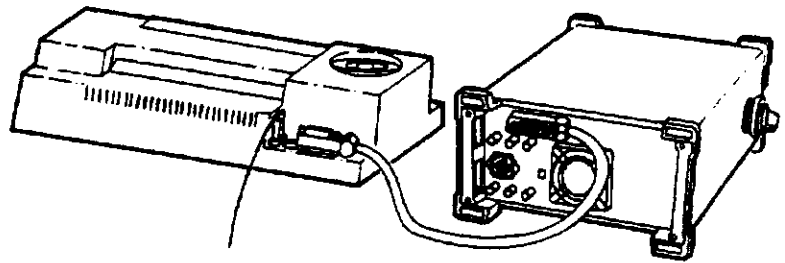

Figure 3-1
**PLOT** initiates a plot dump over HP-IB, without an external controller, to the plotter specified under **CONFIG** and [PLOTTER ADDRESS]. The plotting process is similar to the printing process. Printing is usually faster than plotting, but plotting provides higher resolution output. The HP 8590A works with plotters such as the HP 7440A. Figure 3-1 shows the rear view of a typical plotter/spectrum analyzer configuration.